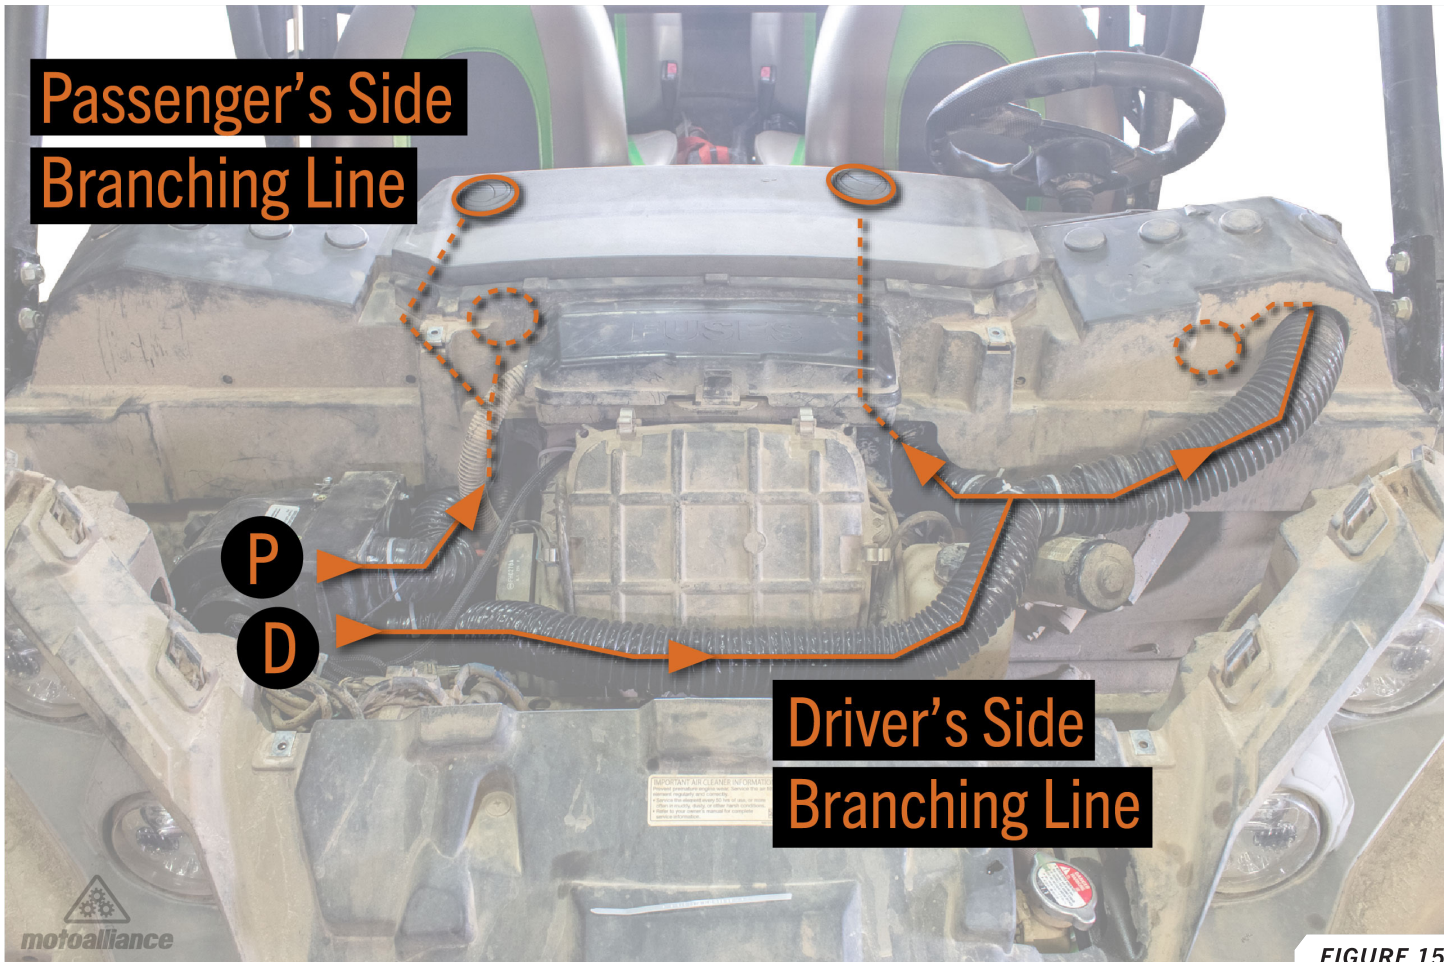

FIGURE 15
24. Two branching duct hose lines will be run from the heater to the vents: one for the passenger side, and one for the driver side. **FIGURE 15**